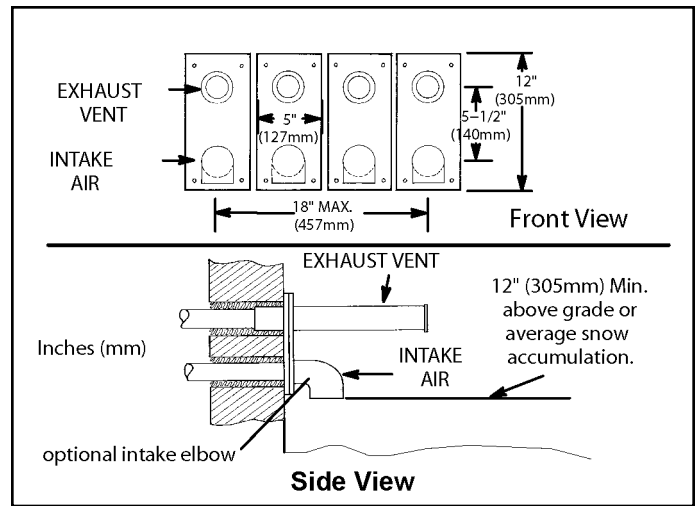

Figure 36. Optional Vent Termination for Multiple Unit Installation of Direct Vent Wall Termination Kit
8. Based on the recommendation of the manufacturer, a multiple furnace installation may use a group of up to four terminations assembled together horizontally, as shown in Figure 36.